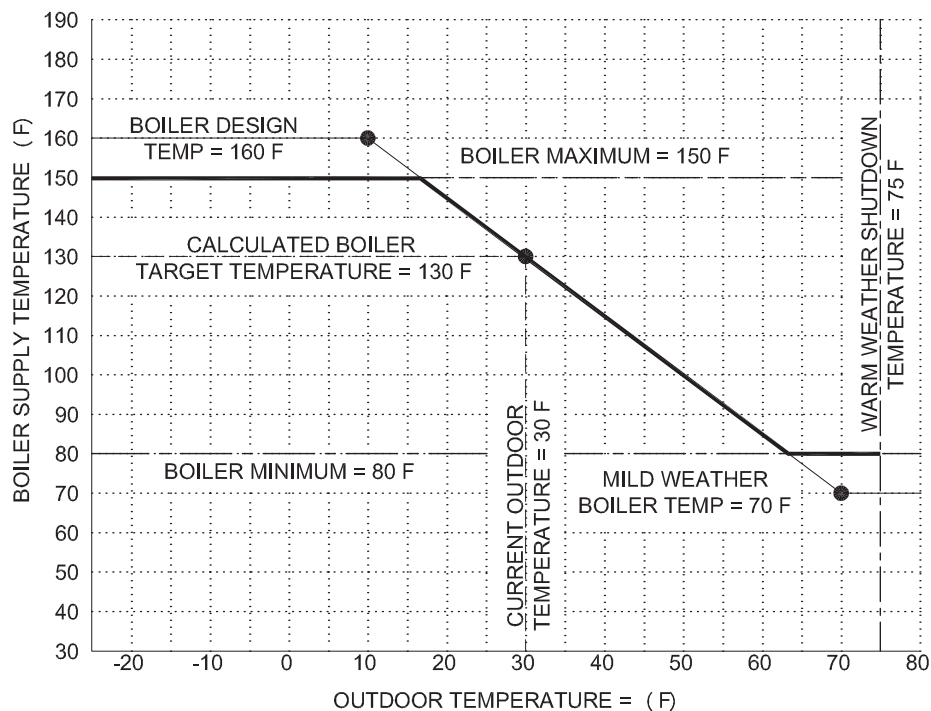

Figure 8.3: Outdoor Reset Operation
Figure 8.3 shows a graphical representation of Outdoor Reset operation. The bold line shows the target supply temperature under the conditions indicated.
**Boiler Design Temperature:** The boiler design temperature required to heat the boiler under a design load is called Boiler Design Temperature. Figure 8.3 shows this at 160°F. This indicates that at any outdoor temperature below the design temperature the control will target 160°F unless the Boiler Maximum (described later) is set lower than this temperature. The factory default value for Boiler Design Temperature is 180°F (82°C).
**Outdoor Design Temperature:** The Outdoor Design Temperature is the outdoor temperature used to calculate the heat loss from the building. Figure 8.3 shows this at 10°F.
**Mild Weather Boiler Temperature:** This is the temperature required to heat the space under a minimum load. Table 8.8: System Type Presets, shows recommended values for this temperature setting based on the heat distribution system type. Figure 8.3 shows this temperature at its factory default of 70°F (21°C).
**Mild Weather Outdoor Temperature:** This is the outdoor temperature at which the boiler should operate at its minimum heating load. Figure 8.3 shows this value at the factory default value of 70°F (21°C). At any outdoor temperature above this value, the boiler will target the Mild Weather Boiler Temperature until the outdoor temperature exceeds the Warm Weather Shutdown Temperature (described later). Note that this is limited by the Boiler Minimum Temperature (described later).
**Boiler Minimum:** This value is the lower limit of the boiler target temperature. Figure 8.3 shows that a Boiler Minimum temperature of 80°F will not allow the target to drop below this value.
**Boiler Maximum:** If the boiler is installed in an installation where high water temperatures can cause damage to tubing or floors, this will limit the maximum temperature that can be achieved. Figure 8.3 shows this value at 150°F, which is below the Boiler Design Temperature. Notice that the target temperature will not exceed the Boiler Maximum. The default value for Boiler Maximum is 185°F (85°C).
Figure 8.3 shows a graphical representation of this value (vertical line) at 75°F outdoor temperature. This feature only affects CH demands. The boiler will operate for DHW demands regardless of outdoor temperature.